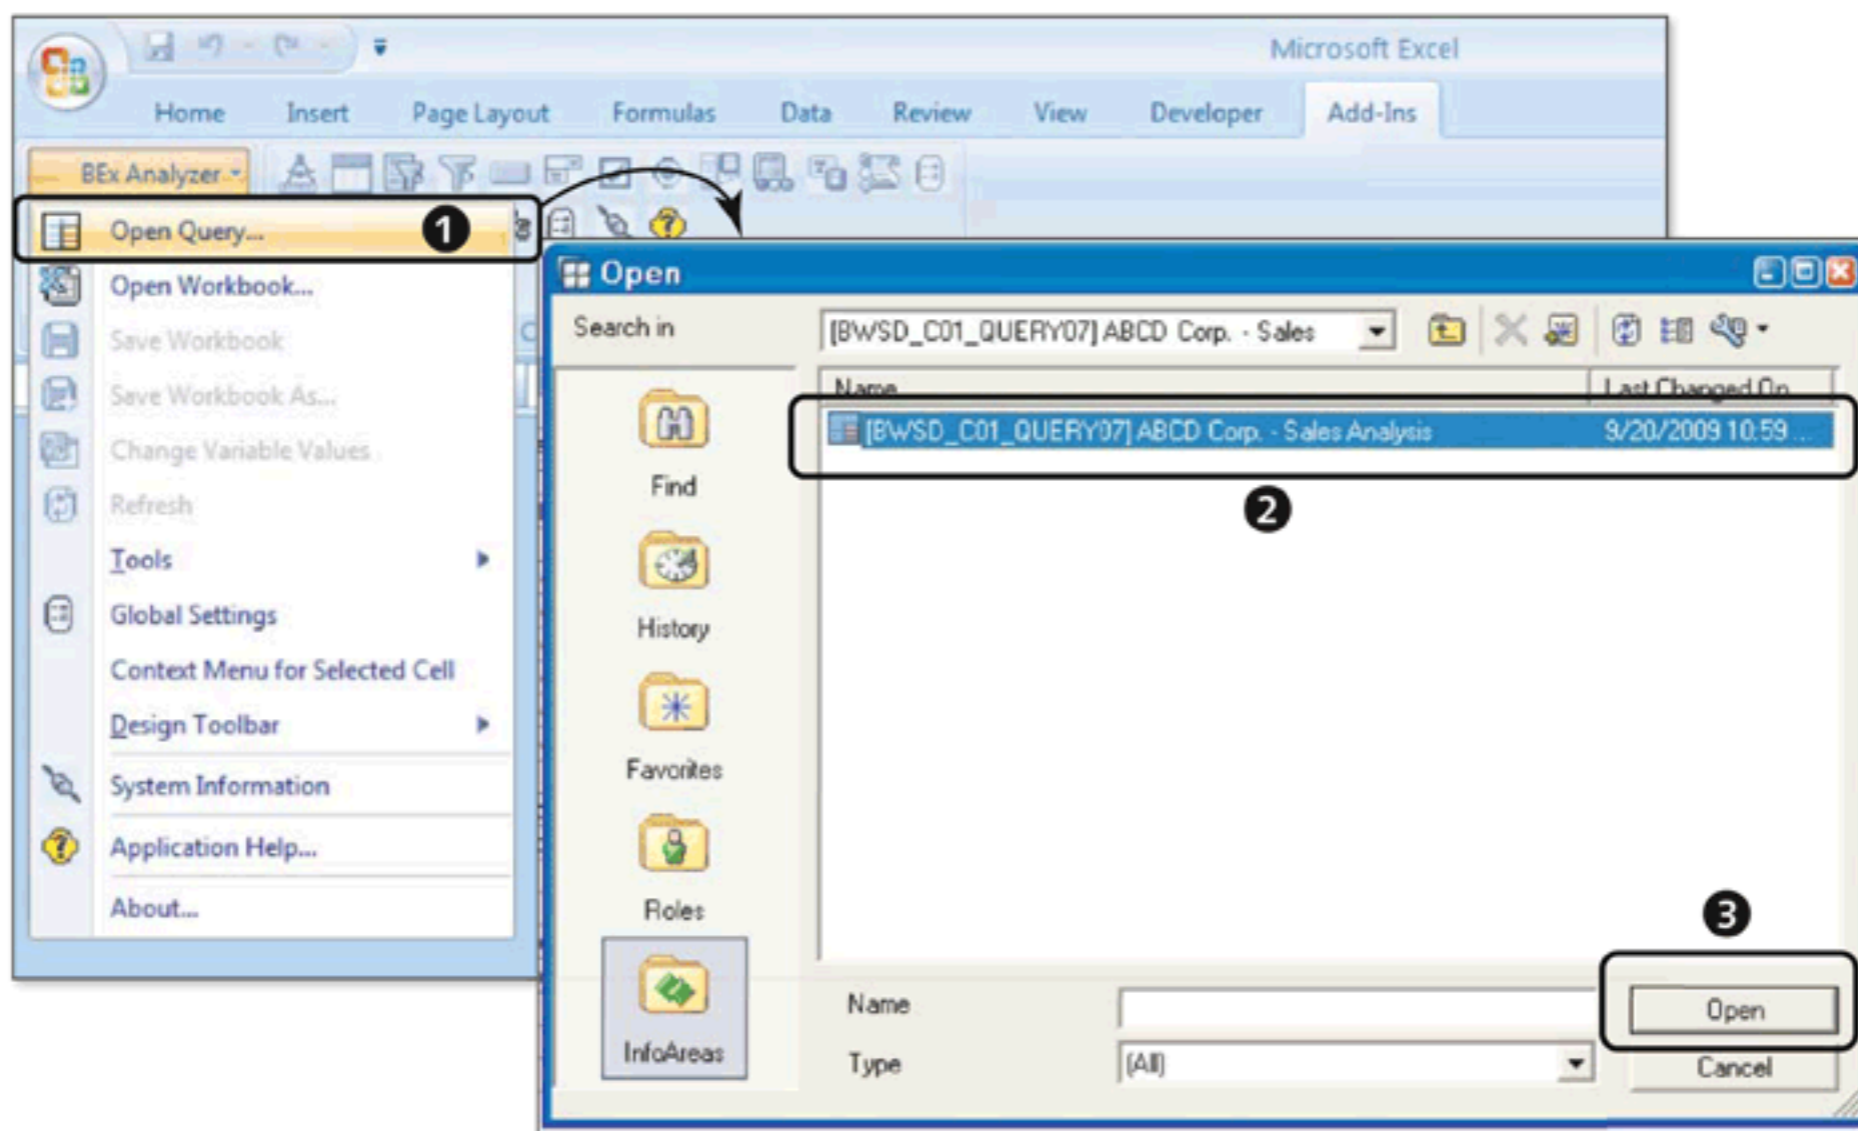

Figure 10.4 Open a Query in BEx Analyzer
To execute an existing query from the connected SAP NetWeaver BW system, you have to first open the query (Figure 10.4).
Click on the BEX ANALYZER menu and select OPEN QUERY (1 of Figure 10.4), which opens a pop-up screen. Navigate through the InfoAreas to locate the required query (2), and click on OPEN (3).